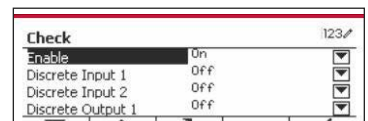

Figure 63
3. In the Application mode menu, enter Check submenu. The Check submenu is now displayed. (See Figure 63)